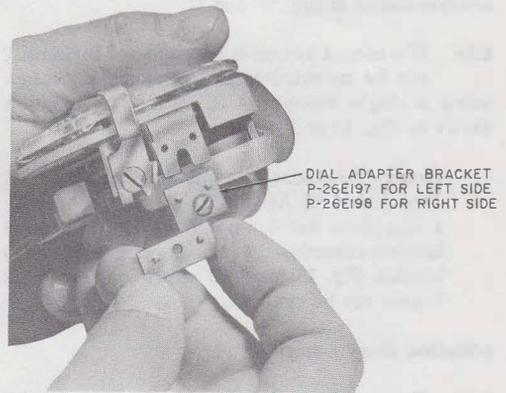

**Fig. 13—Insulating and Storing 508-Type Plugs on 111B Apparatus Blank**
**2.22** Insulate and store unused 508-type plugs on the 111B apparatus blank as shown in Fig. 13. Individual 508-type plugs can be insulated